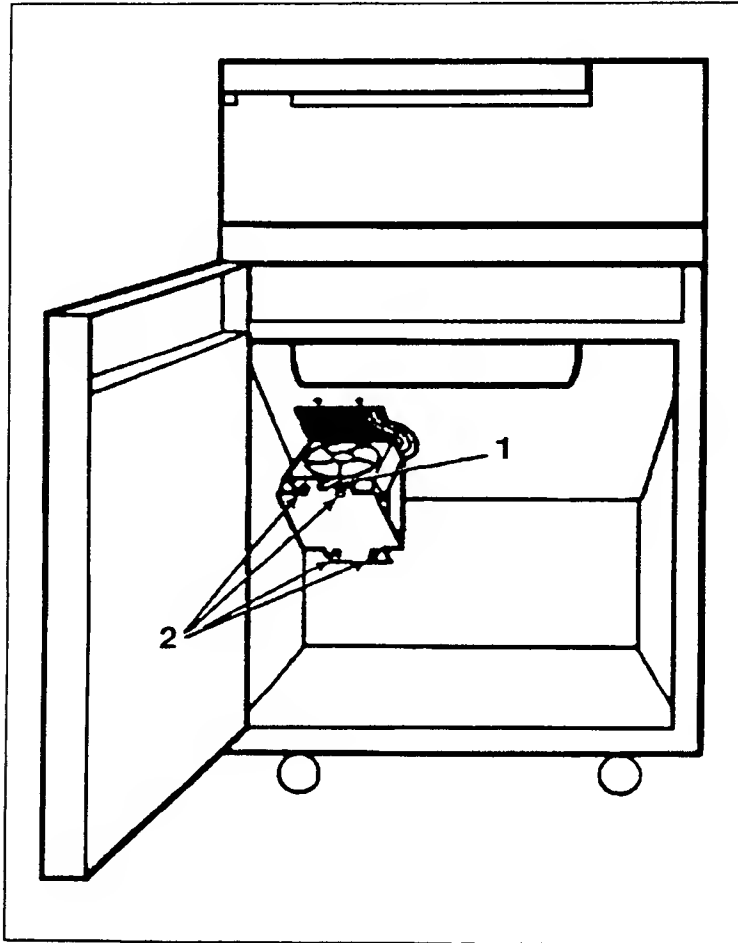

Figure 6-27. Lower Fan Removal
The lower fan is located inside the cabinet under the printer (see Figure 6-27).
- b. Open the front cabinet door (see Figure 6-27).
- c. Remove the screw from the lower fan cover/bracket (see Figure 6-27) and pull out on the four plastic fasteners to release the fan.